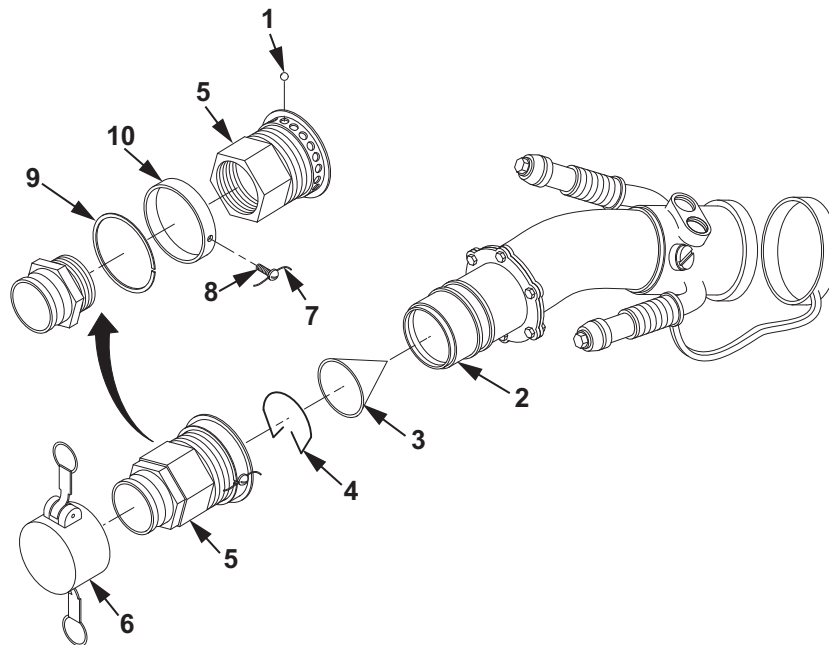

Figure 1. D1 Nozzle Strainer Maintenance.
1. Install strainer (Figure 1, Item 3) in male adapter (Figure 1, Item 2).
2. Install snap ring (Figure 1, Item 4) in male adapter (Figure 1, Item 2).
3. Install quick disconnect coupling (Figure 1, Item 5) on male adapter (Figure 1, Item 2) by performing the following steps:
Ensure all 16 ball bearings (Figure 1, Item 1) are accounted for during assembly.
- a. Place 16 ball bearings (Figure 1, Item 1) on quick disconnect coupling (Figure 1, Item 5).
- b. Move retaining ring (Figure 1, Item 10) up far enough to secure quick disconnect coupling (Figure 1, Item 5) on male adapter (Figure 1, Item 2).
- c. Using snap-ring pliers, move lock ring (Figure 1, Item 9) up to highest notch.
- d. Tighten screws (Figure 1, Item 8) on retaining ring (Figure 1, Item 10).
- e. Install new lock wire (Figure 1, Item 7) on screws (Figure 1, Item 8).
4. Install quick disconnect dust cap (Figure 1, Item 6) on quick disconnect coupling (Figure 1, Item 5).